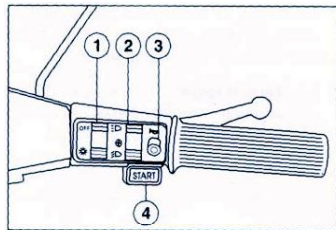

Fig. 21
2.1 **Right hand side of the handlebar (Fig. 21).**